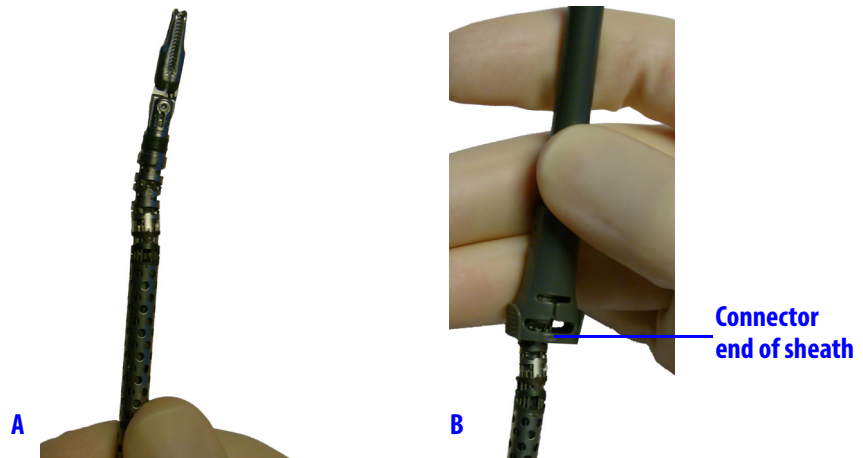

Figure 3.3 Straighten the shaft (A) and slide the sheath onto the shaft (B)
2. Straighten the instrument shaft (Figure 3.3 A) and fully close instrument jaws (if applicable). Slide the connector end of the sheath onto the shaft (Figure 3.3 B).